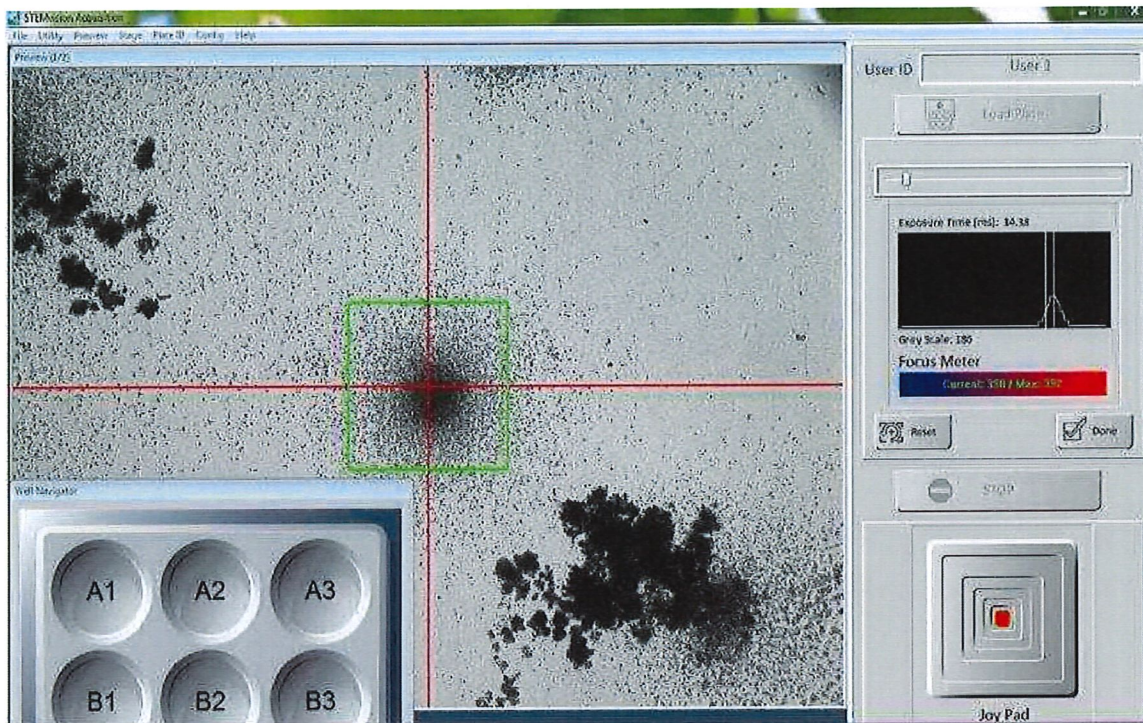

Figure 4
- 8.5.4.1 Use the Joy Pad to find a location in the well where a myeloid (CFU-GM) colony with individual cells around its periphery is placed inside the focus area (the green box in the Preview Window). See **Figure 4**.
- 8.5.4.4 Click the “Done” button. See **Figure 4**.